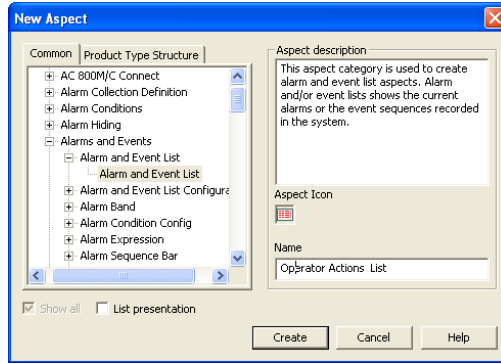

Figure 71. New Aspect - Operator Actions List
2. Name it for example Operator Actions List, see Figure 71.